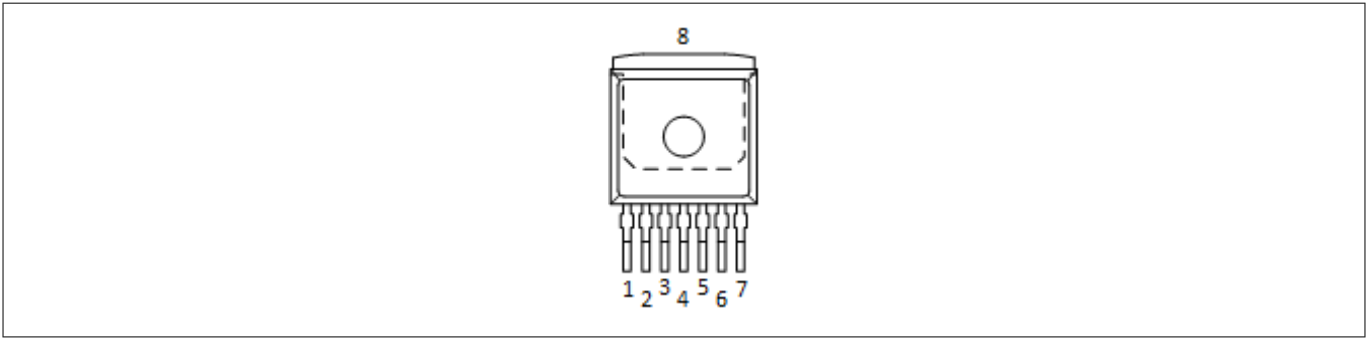

Figure 6 Pin assignment IFX007T (top view)
- C4, so called DC-link capacitor: This electrolytic capacitor is required to keep the voltage ripple at the Vs-pin of the NovalithIC™ low during switching operation (the applied measurement procedure for the supply voltage is described in Chapter 2.1 of the Application Note). It is strongly recommended that the voltage ripple at the NovalithIC™ Vs-pin to the GND-pin is kept below 1 V peak to peak. The value of C4 must be aligned accordingly. See Equation 10 in the Application Note. Most electrolytic capacitors are less effective at cold temperatures. It must be assured that C4 is also effective under the worst case conditions of the application. The layout is very important too. As shown in Figure 6, the capacitor C4 must be positioned with very short wiring close to the NovalithIC™. This must be done to keep the parasitic inductors of the PCB-wires as small as possible.